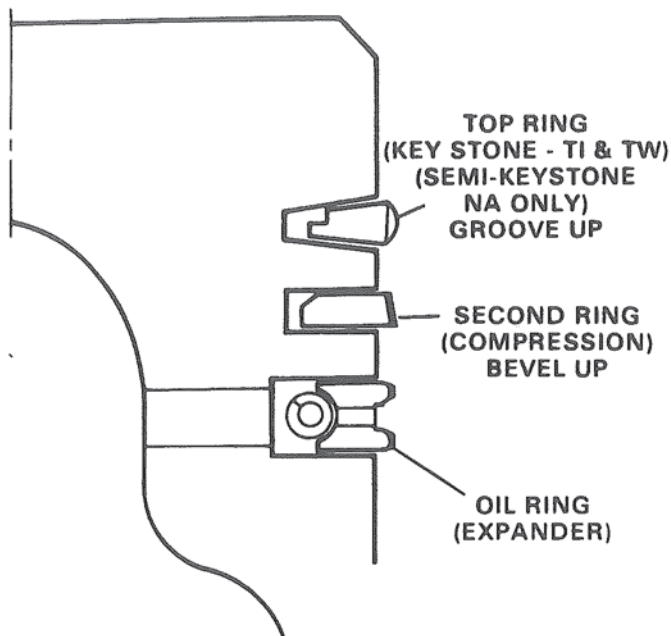

Figure 60. Ring Sequence.
D. Install piston rings on piston using a piston ring tool. Follow Figure 60, for correct ring sequence.